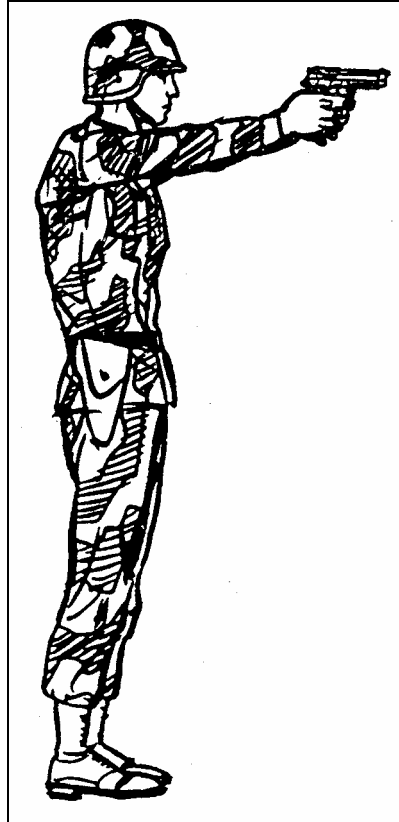

Figure 2-9. Standing position without support.
b. **Standing Position without Support.** Face the target (Figure 2-9). Place feet a comfortable distance apart, about shoulder width. Extend the firing arm and attain a two-hand grip. The wrist and elbow of the firing arm are locked and pointed toward target center. Keep the body straight with the shoulders slightly forward of the buttocks.